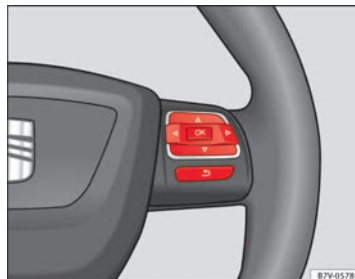

Fig. 38 Right side of multifunction steering wheel: Buttons to access the instrument panel menus.
- If a message or vehicle symbol is displayed, press **OK** (⇒ fig. 37 (A) or ⇒ fig. 38).